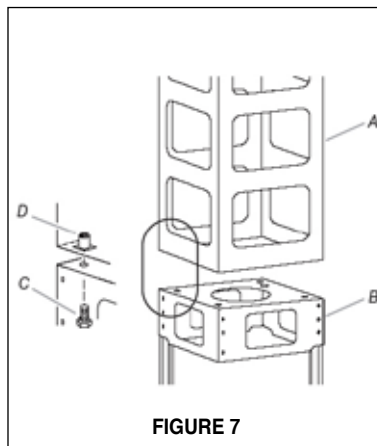

FIGURE 7
5. If using the **High Ceiling Chimney Kit**, remove the CHIMNEY COVER from the CHIMNEY EXTENSION (A in FIGURE 7). Position the CHIMNEY EXTENSION over the CHIMNEY SUPPORT (B in FIGURE 7) so that the outside edges and the electrical holes line up. Attach the CHIMNEY EXTENSION to the CHIMNEY SUPPORT using the 4 bolts (C in FIGURE 7). Tighten bolts securely.